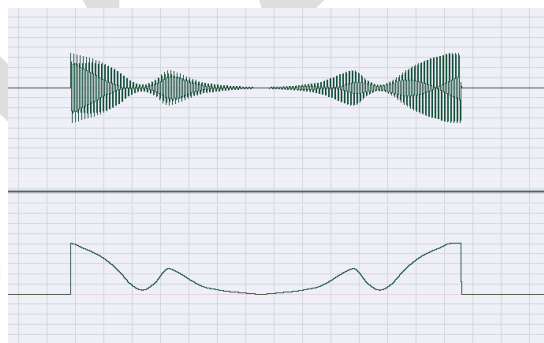

Figure 13 – CUSTOM mode Rise with decreasing function
- Rise mode* (check box unchecked) : in this mode, the generated function with the same actions is only used to map the on / off ramp envelope trapezoidal base as evidenced by Figure 13. This second mode is generally used a custom increasing function as shown in Figure 14